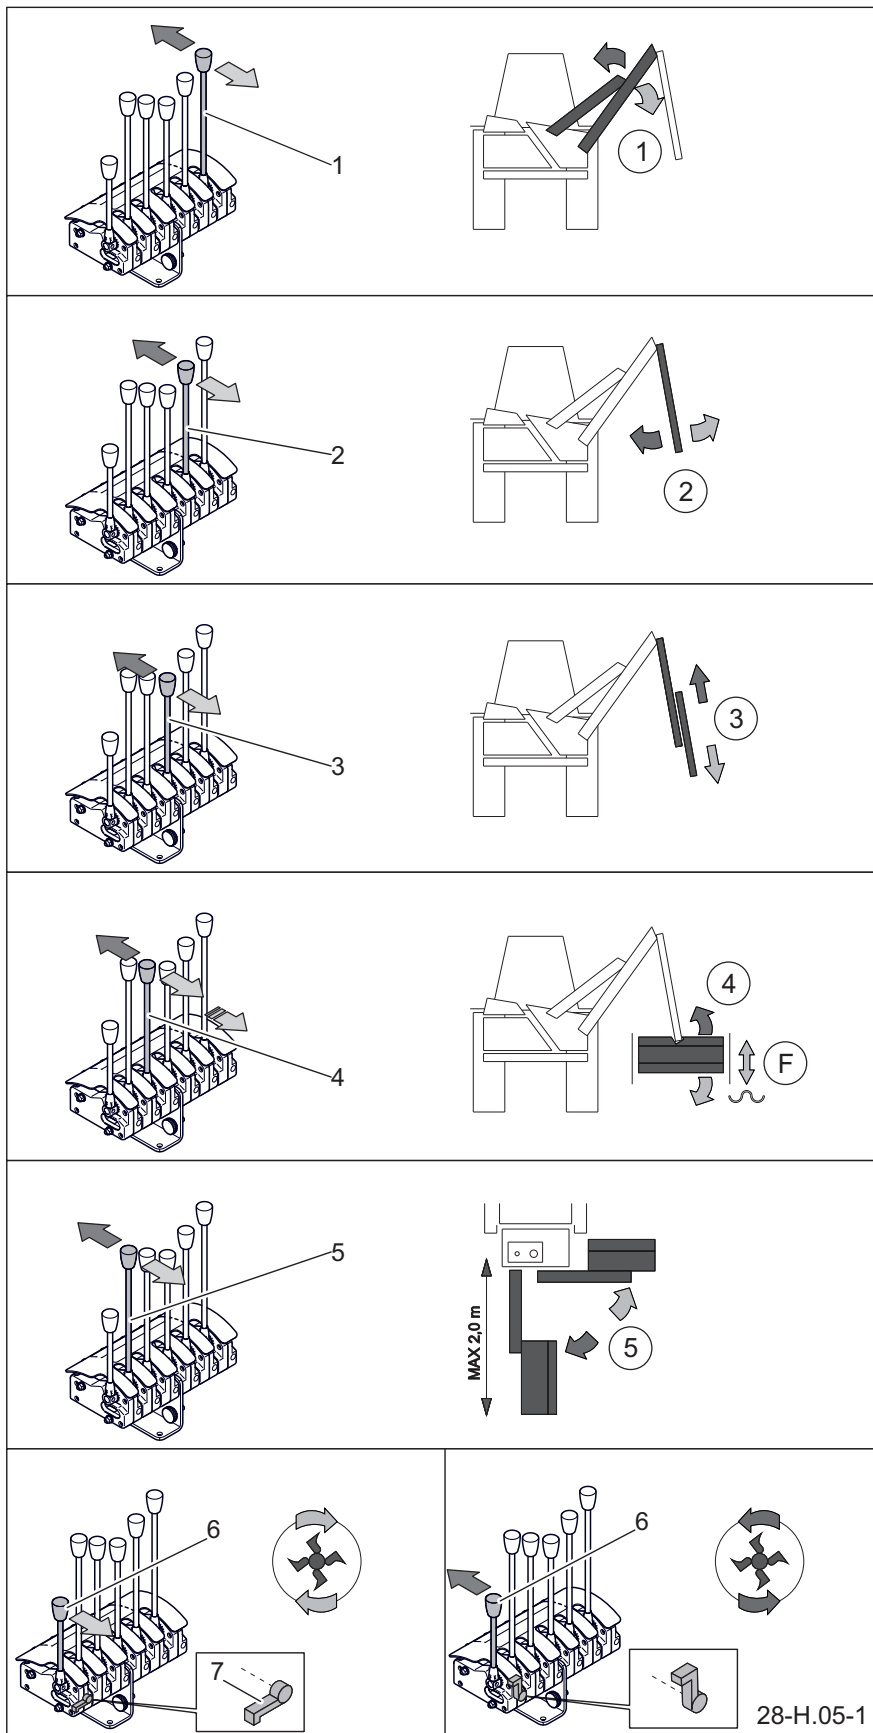

Figure 4.6 Controlling WWT800T multifunction arm
control lever (FIGURE 4.6):
Start unfolding the machine from the main arm hydraulic cylinder. Start folding by retracting the outer arm - control lever (3) (FIGURE 4.6).